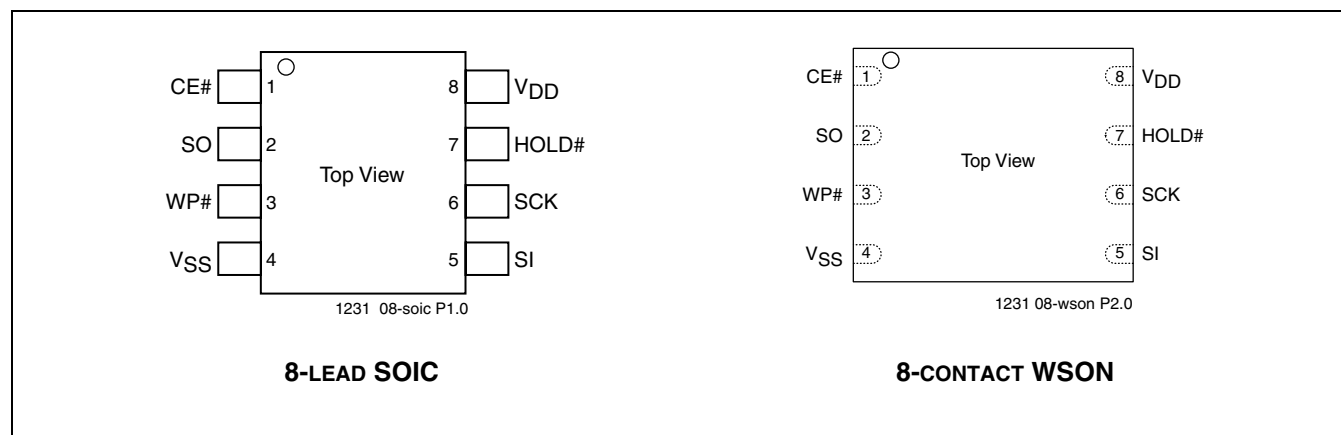

FIGURE 1: PIN ASSIGNMENTS
The SST25VF020 devices are offered in an 8-lead SOIC 150 mil body width (SA) package. The SST25VF040 devices are offered in an 8-lead SOIC 200 mil body width (S2A) package. All densities are offered in the 8-contact WSON package. See Figure 1 for the pin assignments.